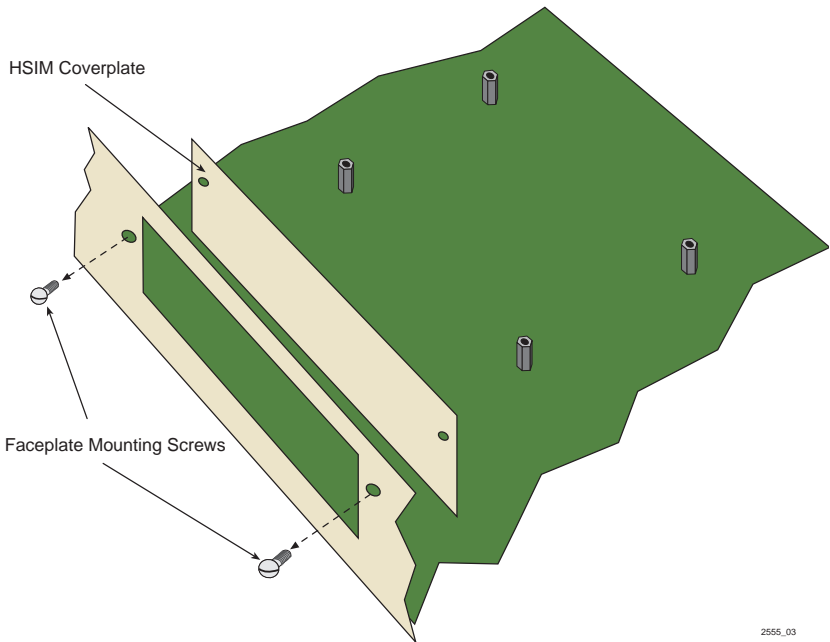

Figure 2-3 Removing the HSIM Coverplate
5. Remove and save the two faceplate mounting screws securing the HSIM coverplate and remove the coverplate. See Figure 2-3.
- Refer back to Figure 2-3 and remove the two faceplate mounting screws and the HSIM coverplate. Save the screws.